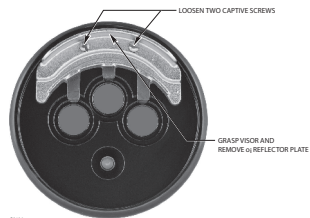

Figure 19—**o_i** Reflector Plate Removal
2. Loosen the two captive screws, then grasp the **o_i** reflector plate by the visor and remove it from the detector. See Figure 19.